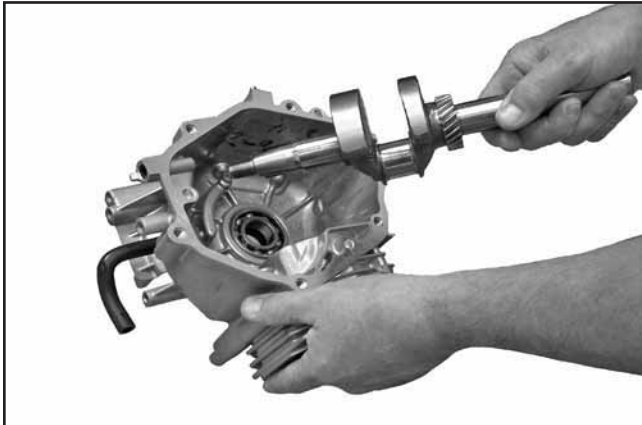

Figure 10-1. Installing Crankshaft.
1. Carefully install the crankshaft into the crankcase through the front seal, and fully seat into place. See Figure 10-1. Rotate the crankshaft until the journal for the connecting rod is away from the cylinder.